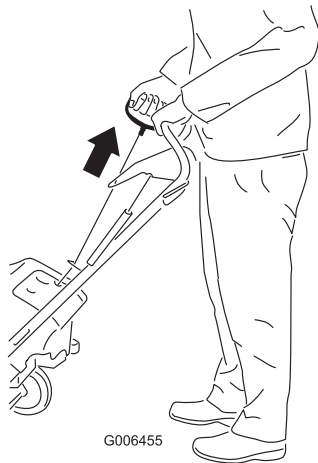

**Figure 12**
1. Turn the ignition key clockwise to the ON position (Figure 12).